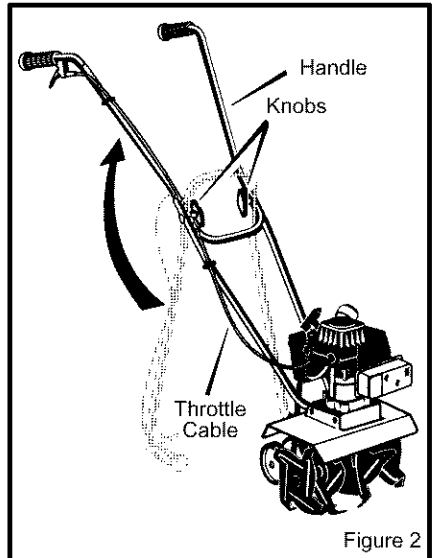

Figure 2
1. Loosen the **knobs** (see Figure 2). Tilt the cultivator forward and rotate the **upper handle** to the upright position. Make sure the **throttle cable** is not caught between the handles.